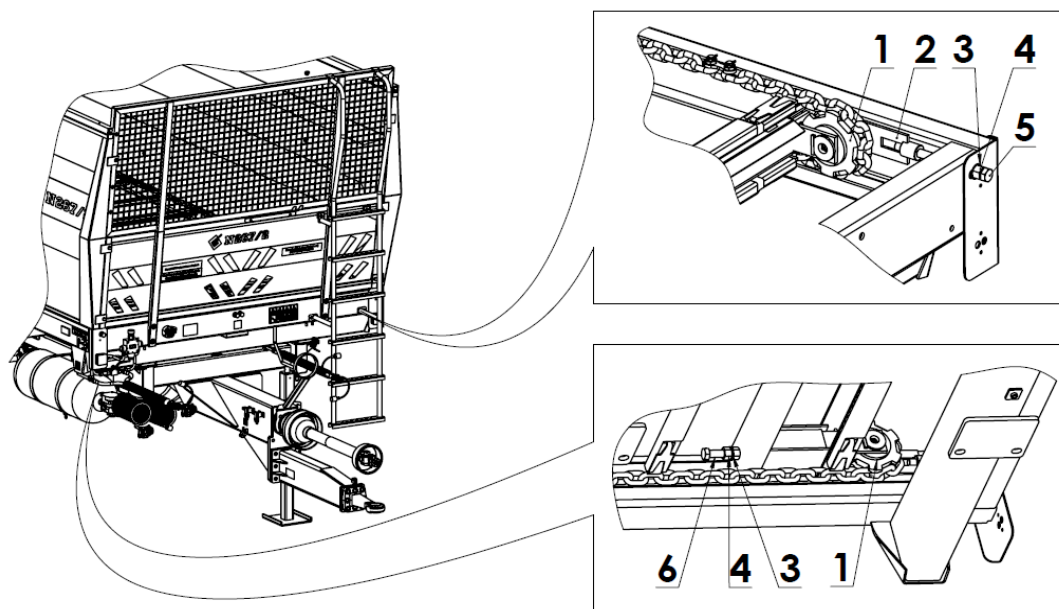

Figure 23 Tensioning the chains of the floor conveyor:
Check the tensioning of the floor conveyor chains during operation daily, especially during the initial period of operation. Use the adjusting screws on the front part of the beam of the top frame to tighten the chains of the conveyor - see Figure 23. To increase chain tension, loosen the nut (4) and turn the tensioning screw (5) using a wrench, which tightens the chain of the floor conveyor wrapping around the sprocket wheel of the chain-tensioning set (1). Repeat the tensioning procedure on the left and right sides of the Spreader, ensuring that the chains are tensioned equally.